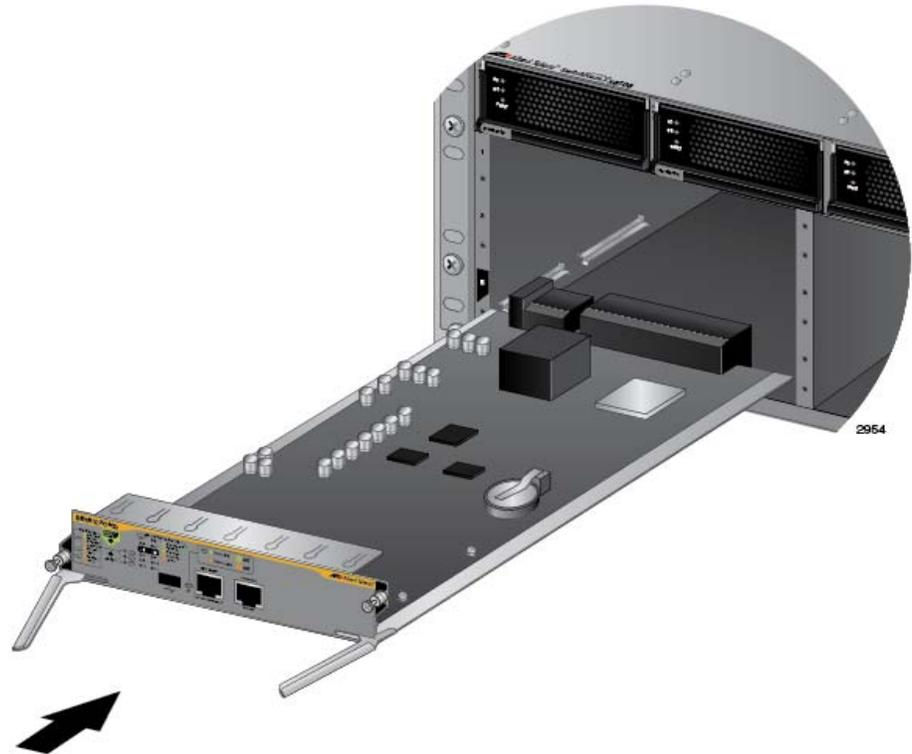

Figure 71. Aligning the AT-SBx81CFC400 Card in the Chassis Slot
6. Align the edges of the AT-SBx81CFC400 Controller Fabric Card with the internal chassis card guides in slot 5 or 6 of the AT-SBx8106 Chassis. Figure 71 on page 115 shows the AT-SBx81CFC400 Card aligned in slot 5.